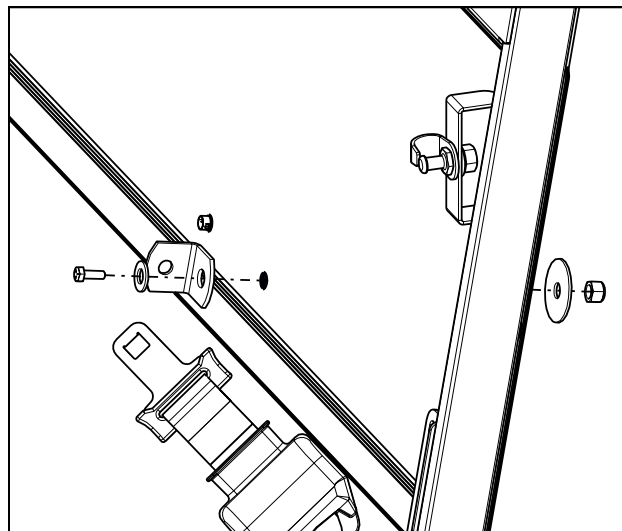

Fig. 13.5: Mounting bracket
- 13.5 Attach mounting bracket through large hole in lower rear panel on driver's side using (1) 7/16-14 x 1", (2) 7/16" flat washer, (1) 9SB3 fender washer, and (1) 7/16-14 lock nut. Tighten mounting hardware to 50 ft-lb (67.8 N-m). (**Figure 13.5**)